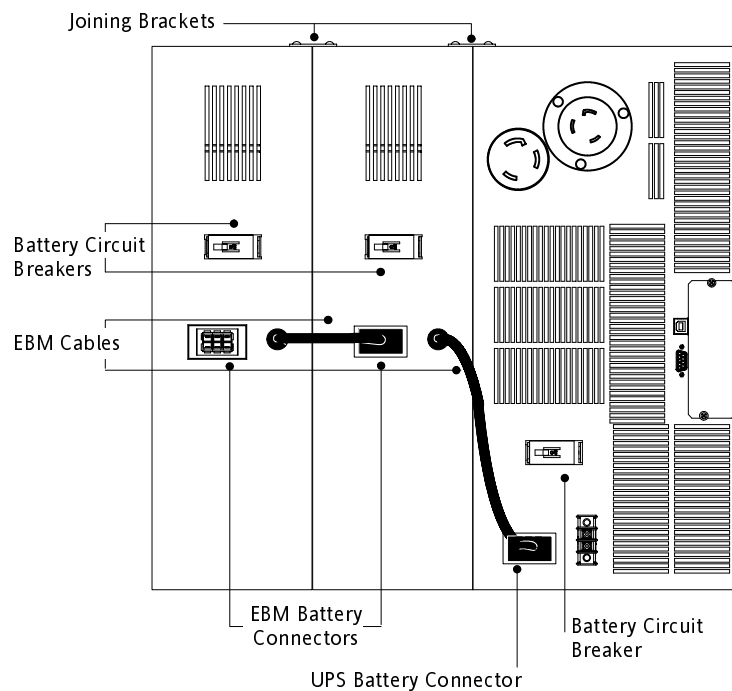

Figure 21. EBM Connections
1. Switch all battery circuit breakers to the OFF (O) position (see Figure 21).
6. Plug the new EBM into the UPS as shown in Figure 21.